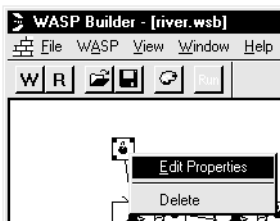

Figure 38: Editing Flows and Exchanges Individually
1. Double click on the exchange or flow that you want to edit, or right mouse click on the exchange or flow. Select **Edit Properties** from the window that appears (*Figure 38*).